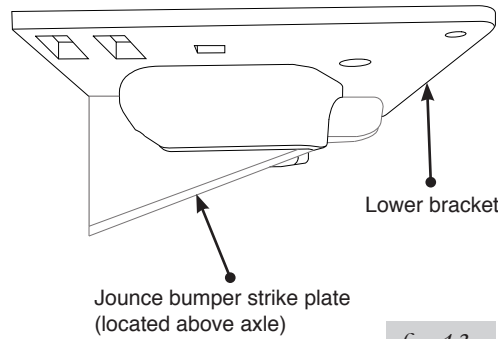

fig. 13a
2. Set the left (driver side) assembly onto the jounce bumper strike plate (fig. 13a & 13b). Make sure the long carriage bolt on the bottom bracket goes in between the hard brake line and the axle (this should be on the back side of the axle). Raise the axle just enough to insert the long carriage bolt (that is installed in the upper bracket) through the existing jounce bumper hole in the bottom of the frame. At the same time, line up the upper brace previously installed onto the remaining two carriage bolts in the upper bracket. Do this just enough for the carriage bolt to hold the assembly into position on the jounce bumper strike plate (figs. 1a and 5).